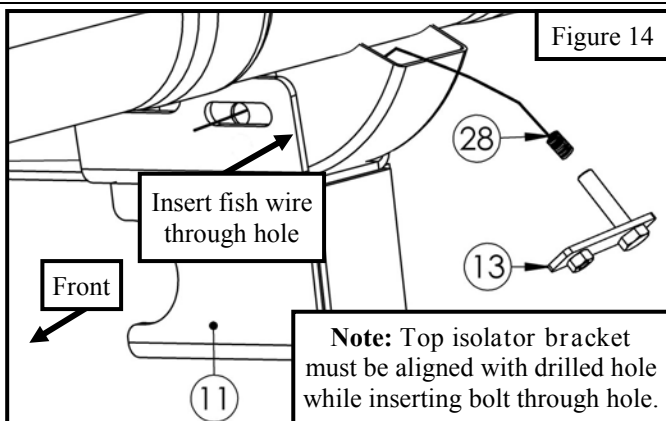

Figure 14
- Align the top isolator mount bracket (Item 11) with the 1/2" drilled hole. **Note:** It is necessary to keep the top isolator mount bracket aligned with the hole until the bolt of the M10 bolt / M8 nut plate is through. Locate (1) M10 fish wire (Item 28) and insert end with spiral through the recently drilled 1/2" hole and out of vehicle frame. Then locate (1) M10 bolt / M8 nut plate (Item 13) and screw onto the fish wire. Pull the bolt / nut plate through the hole. See **Figure 14**.